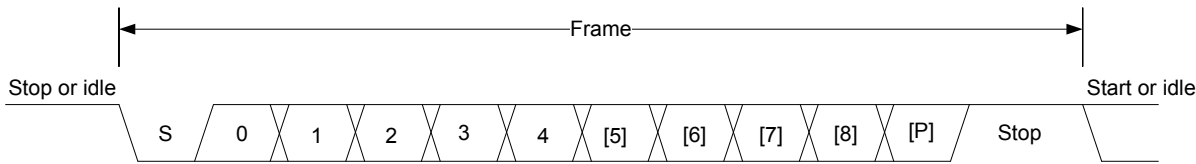

Figure 20.2. Frame Format
The frame format used in asynchronous mode consists of a set of data bits in addition to bits for synchronization and optionally a parity bit for error checking. A frame starts with one start-bit (S), where the line is driven low for one bit-period. This signals the start of a frame, and is used for synchronization. Following the start bit are 7 to 9 data bits and an optional parity bit. Finally, a number of stop-bits, where the line is driven high that indicates the end of the frame. An example frame is shown in Figure 20.2 Frame Format on page 610.